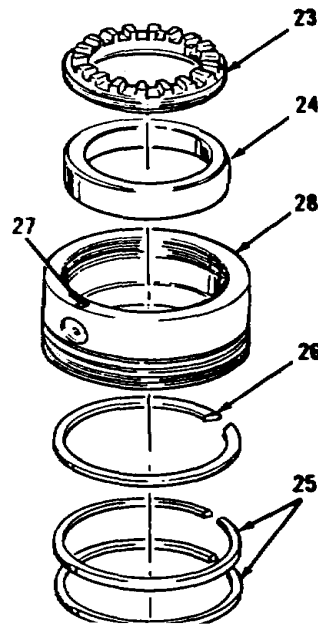

Figure 14-129.
13. Remove nut (23), cup (24), two rings (25) and ring (26) from cage (28, Figure 14-129).
14. Check for presence of ball (27) in cage (28). If ball is present, do not remove. If ball is missing, make a note to install new ball (27) during assembly.